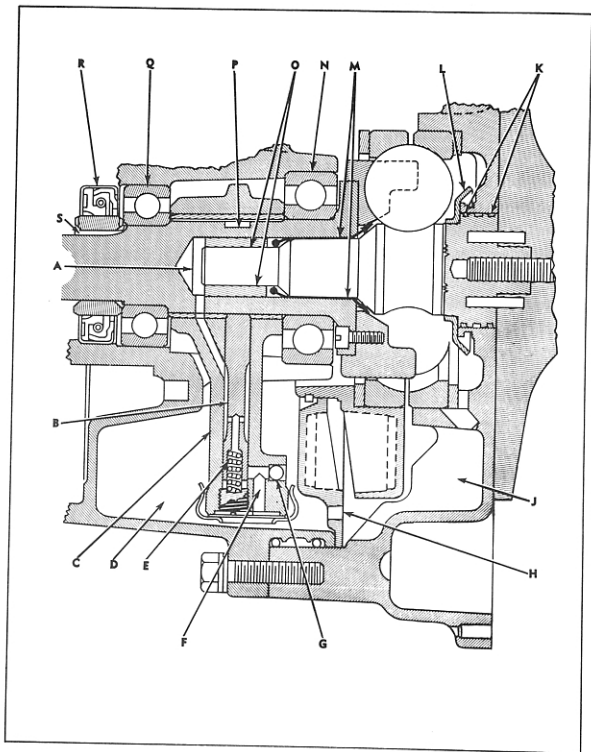

FIG. 10 LUBRICATION SYSTEM
The overall lubrication system is shown in Figure 10. In operation, oil pump (C) is fitted to the input shaft and extends down into oil sump (D). Plunger (B) follows a camway (P) ground into the input shaft. Spring (E) keeps the plunger in constant contact with the cam. As the plunger follows the low portion of the camway, oil is sucked through oil passageway